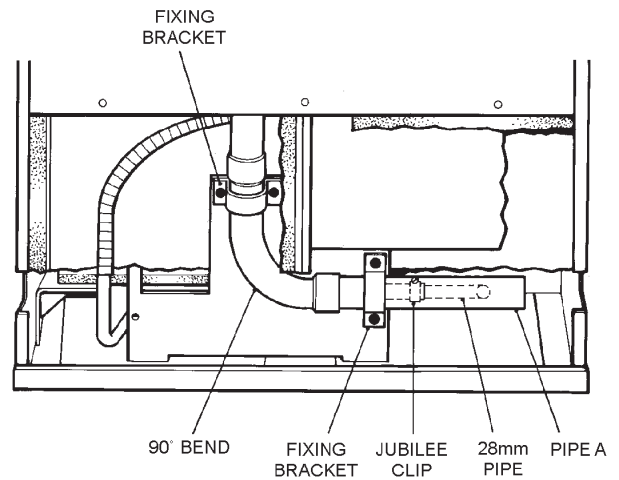

FIG. 2
2. Unscrew the two fixing brackets and remove. (See Fig. 2).
3. Slacken the jubilee clip, fixing flexible pipe to horizontal pipe (A). (See Fig. 2).